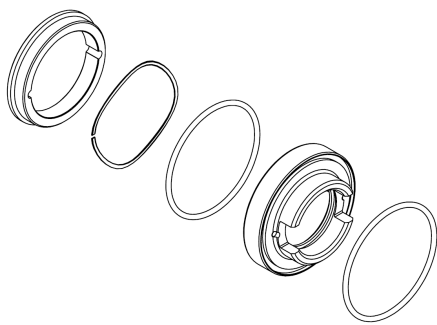

Figure 33
4. Assemble single seal and driver assembly. Insert the seal driver o-ring and the single seal o-ring into the seal driver. Insert the single seal spring into the seal driver. Then press the rotating single seal into the seal driver while noting that the notches in the rotating single seal line up with the seal driver pins, figure 33.